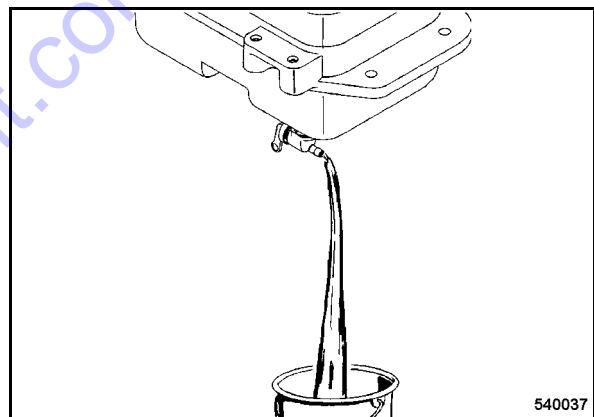

Fig. 54
- Disconnect fuel hose (Fig. 54) from fuel cock. Open the fuel cock, drain off fuel.